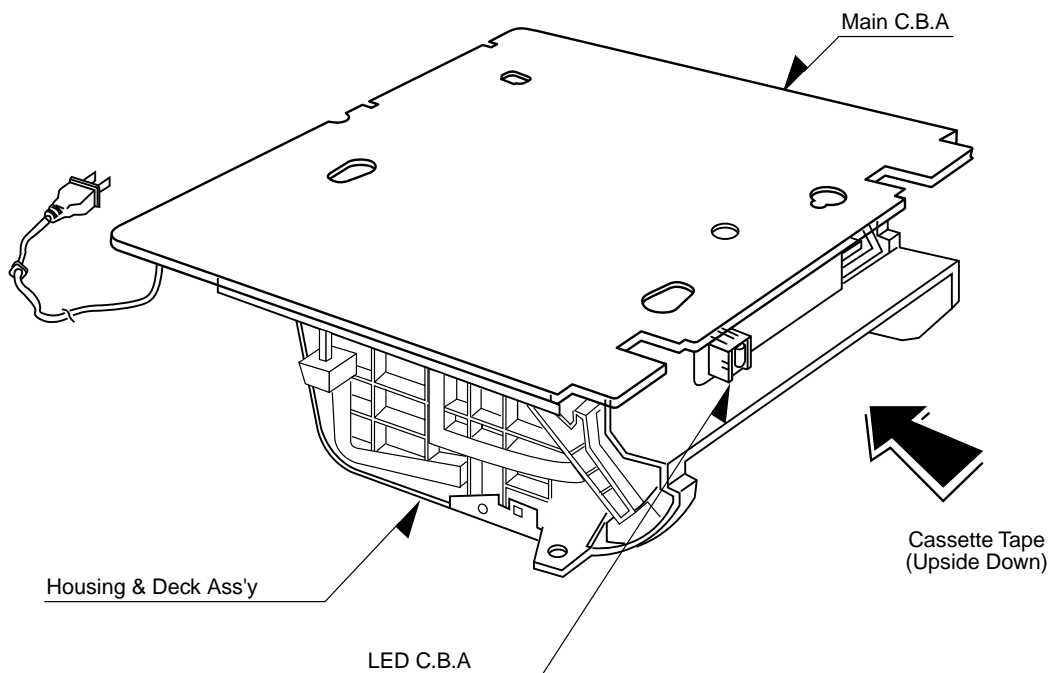

Fig.2-1
(1) Disassembly Flow
(2) Re-assembly Flow for service like Fig. 2-1
(3) To check and replace Electrical parts
- ① Disassemble the unit according to No.1) Disassembly Flow.
- ② Re-assemble the unit according to No.2) Re-assembly Flow.
- ③ Place the unit like Fig. 2-1
- ④ Check and replace Electrical parts.
- ① Insert Video Cassette Tape inversely like Fig. 2-1 to check and replace defective parts.
- ② In disassembling and reassembling, be careful not to damaged CST switch.